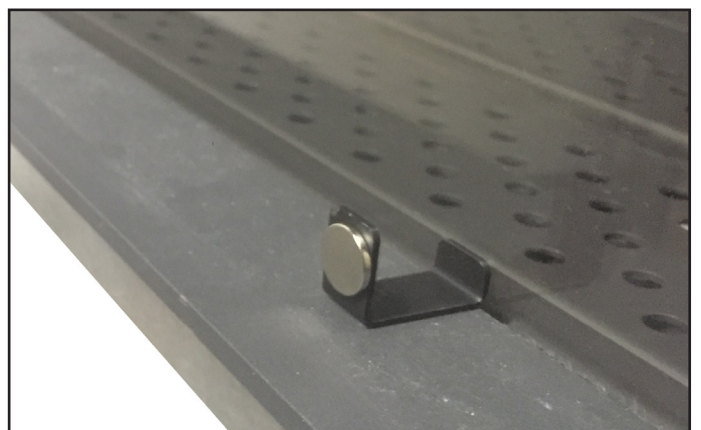
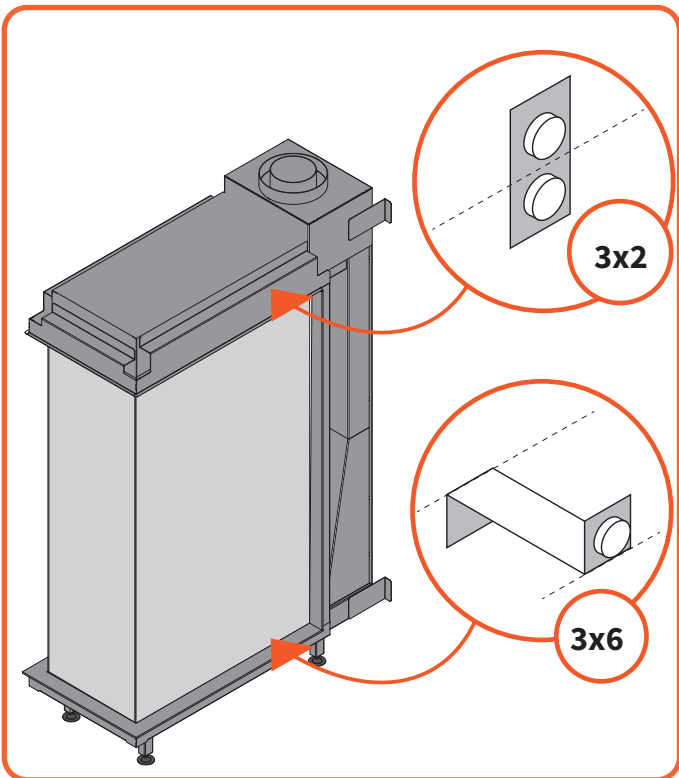

Figure 11.2 - Screen tab installed at the bottom trim
Figure 11.4 - Remove Magnets
- Remove the lower magnet tabs from between the bottom trim and the front windows (**Figure 11.2** and **Figure 11.4**)